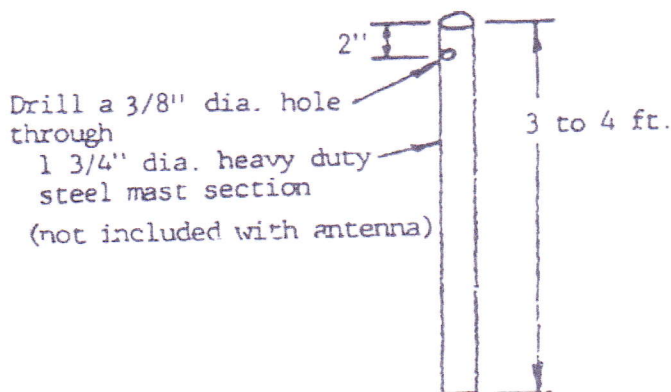

figure 10
- 10) The final steps in assembling the boom involve preparation of your mast section as shown in fig. 10 (this is the mast section that goes into the rotor) and installation of this mast along with the boom to mast plate on the boom, Figure 11 show the location of guy points on the boom, and height of the short mast section above the boom.